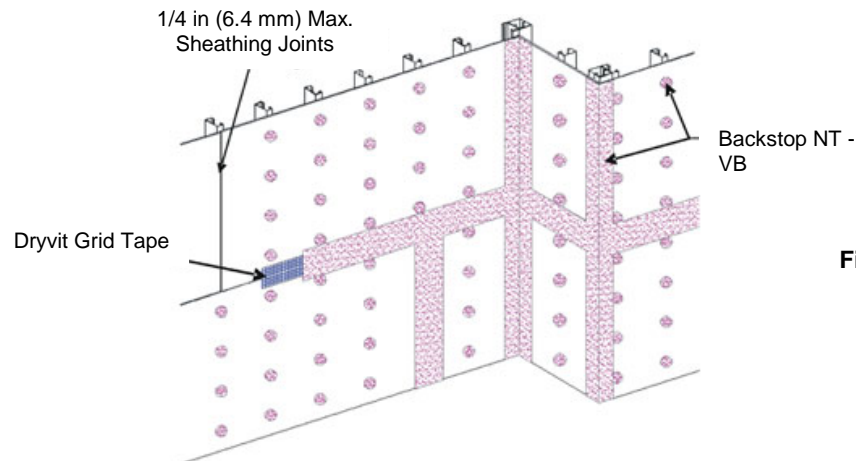

Figure 1
- 1) Apply Dryvit Grid Tape as described in Section IV.E.1 above. Mix the material, as described in Section I and using a stainless steel trowel or spatula, apply a layer of Backstop NT-VB over the grid tape. Spotting of fasteners is not necessary when applying Backstop NT-VB using a trowel. Allow to dry for a minimum of 2 hours or until dry to the touch. Figure 1.